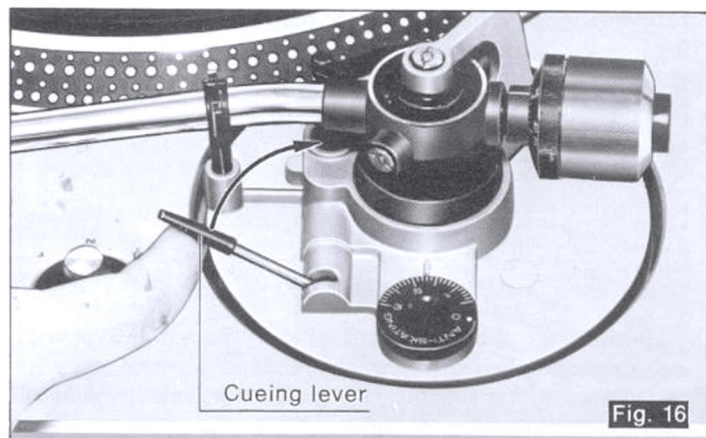

Fig. 16
- ③ Lift the cueing lever as indicated by the arrow. (See Fig. 16.)